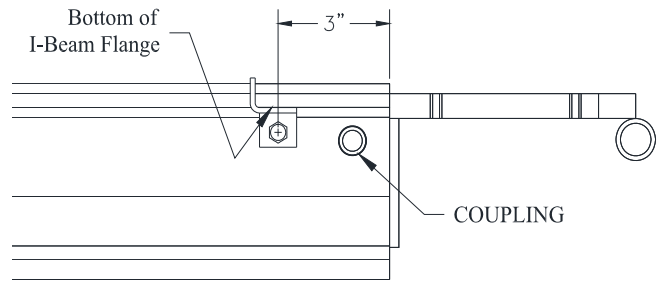

Figure 7
11. On the runway with air supply on the inner side, place Cable Bracket on underside of runway 3" from edge as shown in Fig 7. Drill 3/8" hole thru I-Beam and secure bracket in place using 5/16"-18 x 1" Lg. hex bolt, hex nut, and